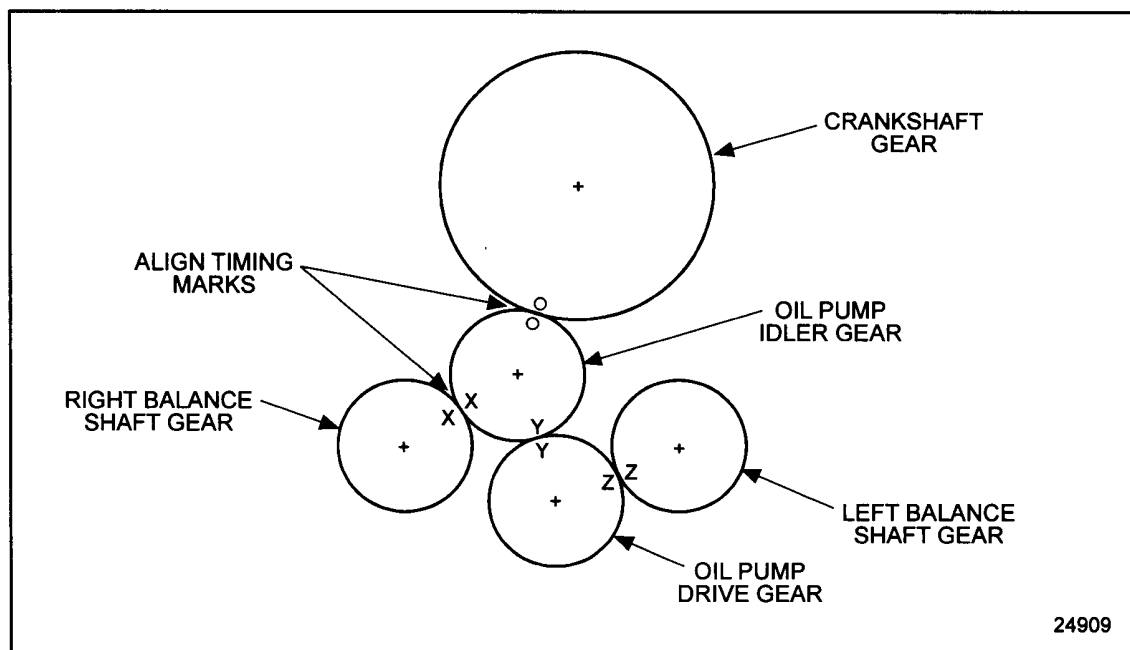

Figure 1-380 Balance Shaft Drive Gear Timing
7. Before installation of the oil pump, rotate the drive gear so that the timing marks match the locating of those on the balance shaft gears. See Figure 1-380.